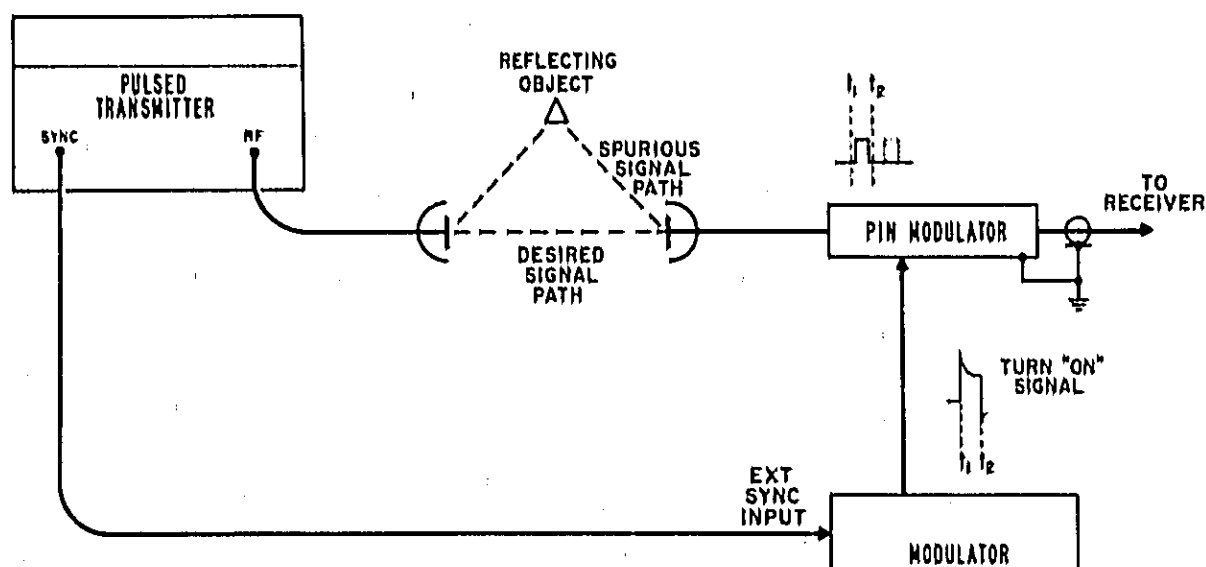
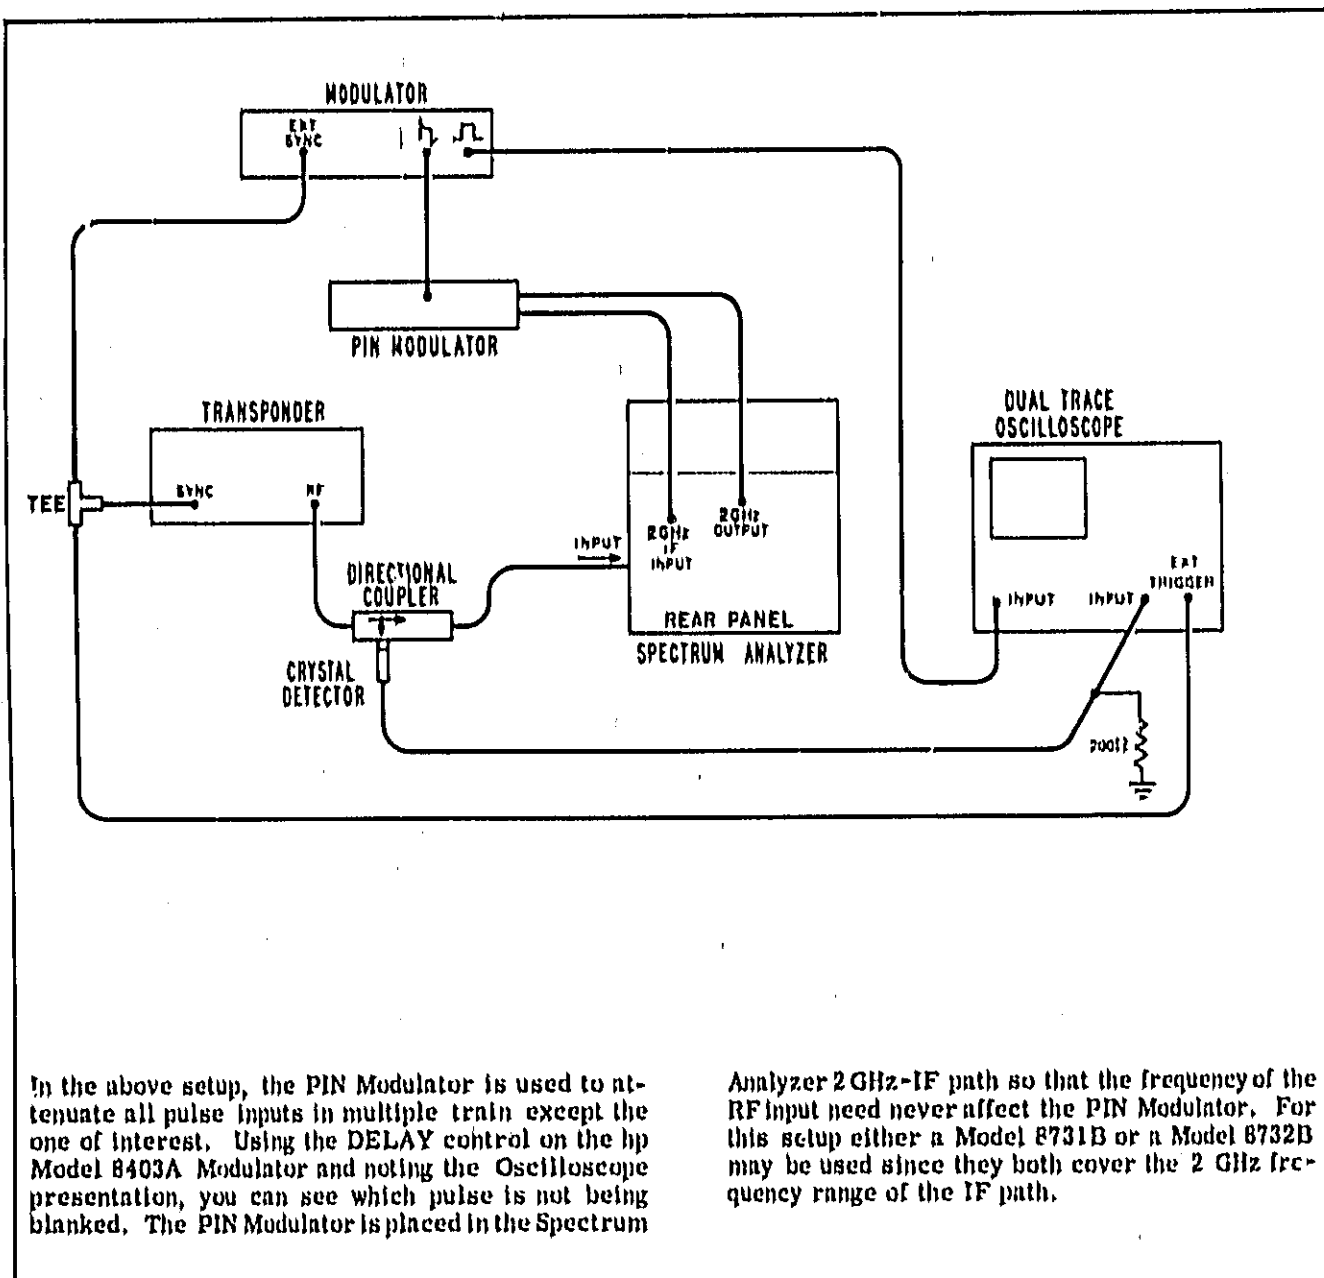

Figure 15. Typical Use of PIN Modulator as an RF Gating Device
Figure 16. Multiple Signal Separation for Spectrum Analysis
37. Figures 15 and 16, respectively, illustrate use of the PIN Modulator as an RF gating device for eliminating spurious or "ghost" signals in antenna range receivers (Figure 15) or multiple signal separation in a spectrum analysis system (Figure 16).